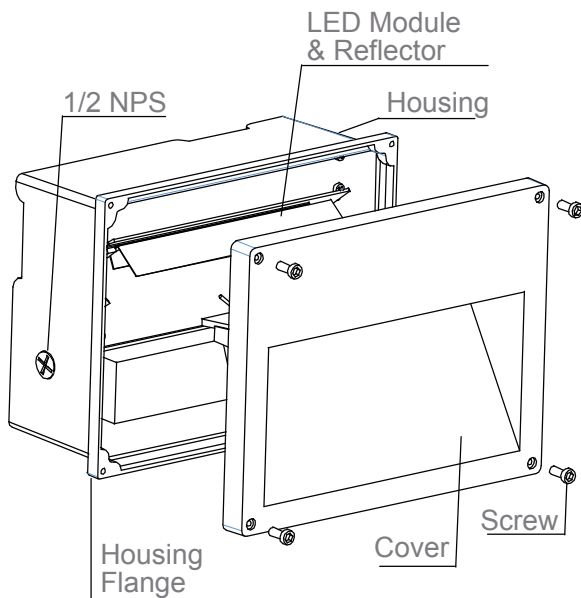

Figure 1
3. Remove the (4) screws on the Cover with Allen Wrench. Pay attention not to damage the LED chips and keep the Reflector clean. See Figure 1.
4. Feed the AC wires into the Housing through 1/2NPS hole at the side of Housing and secure the wire with waterproof connector (by others). See Figure 1.